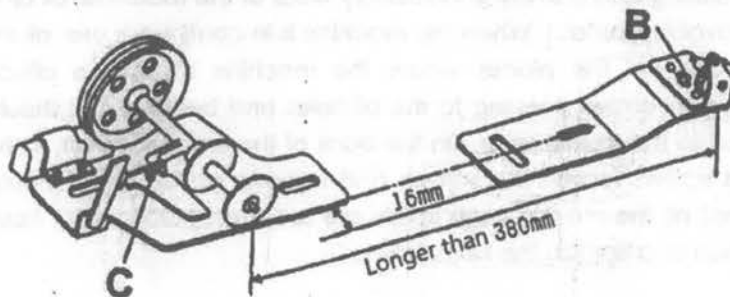

Fig.4
The bobbin winder is mounted on the table top as shown in Fig.4 with its pulley in front of the driving belt so that the pulley will separate from the belt after bobbin has been wound with sufficient thread. Screw(B) adjust the central position of bobbin winder. Screw(C) adjust the bobbin winder.